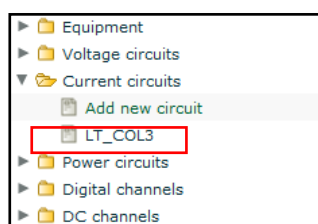

Figure 97: Current Circuit name
8. Enter the names of the Current Circuits A and B. As it is configured in the RPV311, Figure 97 . These circuit names are used to identify the correct Fault chart used in the Advanced TWFL Method. Refer to TW Fault Location Methods 2.3.3 for more information.